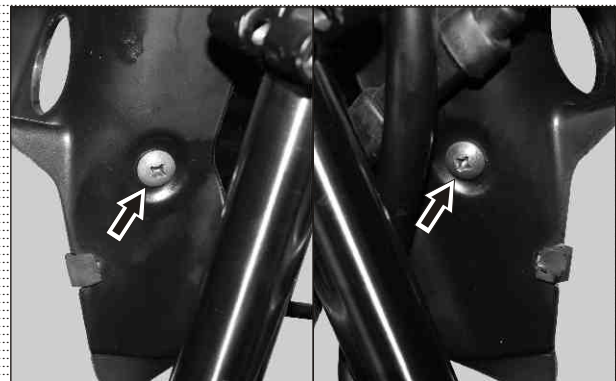

Fig. 5.50
- Remove CRR pan head screws (M6X16 - 2nos) from the housing head lamp rear L & R side. (Fig. 5.50)